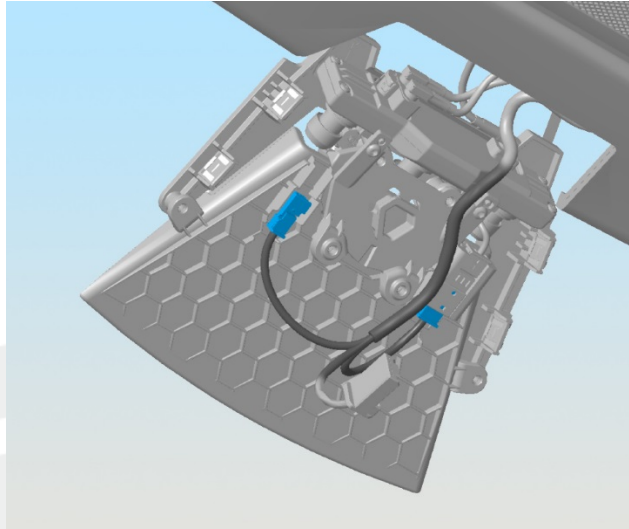

Figure 6
9. Disconnect the harness connectors on the underside of the glare shield (Figure 6).